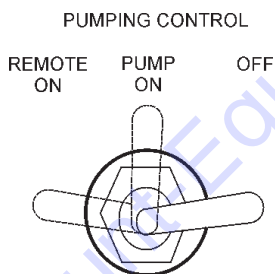

Figure 18. Pumping Control Switch (OFF)
2. **Place** the pumping control switch (Figure 18) in the **OFF** position.